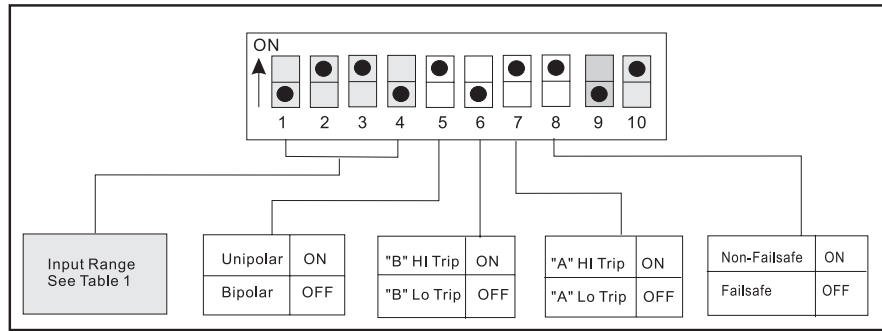

Figure 4: DRG-AR-DC Input Range/Function Selection (SW1) Factory Default Settings
For other I/O ranges, refer to Table 1 and Figure 4. Reconfigure switch SW1 for the desired input type, range and function.
3. Set position 5 of input range switch “SW1” to ON for unipolar (e.g. zero based, 0-20mA) range or OFF for bipolar (e.g. -100% offset, -20 to 20mA) range (see Figure 4).
4. Set position 6 and 7 of input range switch “SW1” to ON for a HI trip setpoint or OFF for a LO trip setpoint (see Figure 4).